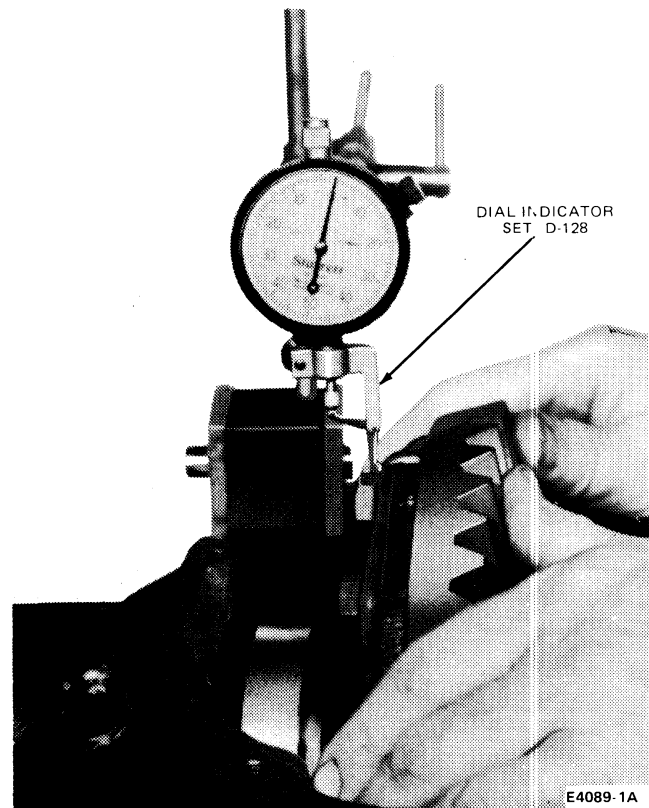

FIG. 20 Dial Indicator Installation
9. Assemble differential case into carrier (less pinion). Mount dial indicator with a magnetic base as shown in Fig. 20. Locate tip of indicator on flat surface of one of the ring gear screw spot faces. Mark location with a piece of chalk. Force differential assembly as far as possible in the direction towards the indicator. With force still applied, set indicator at zero (0).